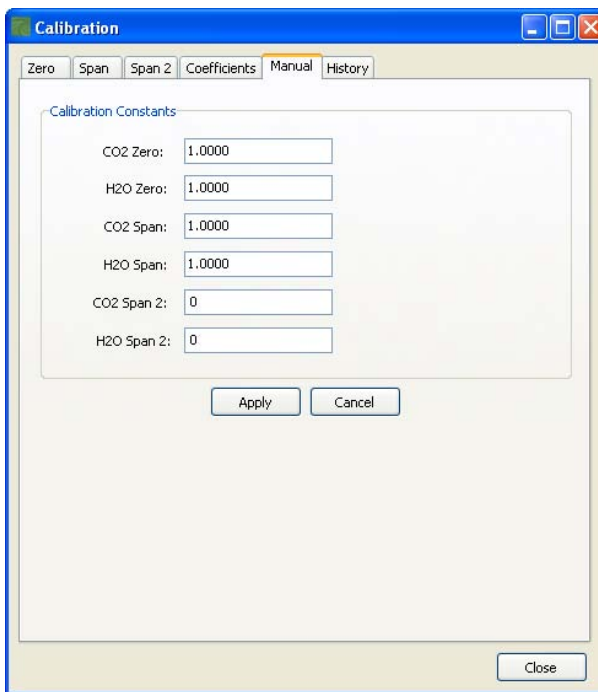

Figure 5-2. Note value of Z_{CO_2} , shown as CO₂ Zero.
6. Click the Zero tab. When the reading has stabilized in the main window, click **Zero CO₂** to set the CO₂ zero. After a brief delay, the displayed CO₂ value should be fluctuating around zero. Check the resultant value of Z_{CO} shown on the Manual tab (Figure 5-2). It should be near 1 (typically between 0.85 and 1.1). This value will steadily increase over time (2-3 months) as the internal chemicals lose effectiveness.